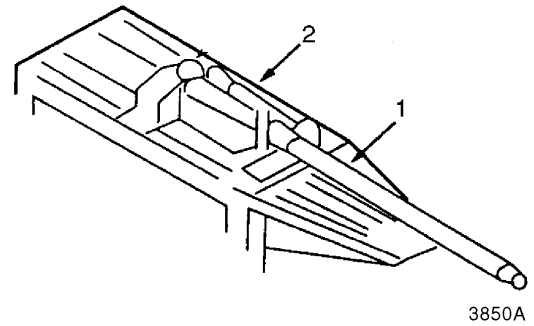

Figure 32
17. Set cylinder rod (1, Figure 32) into a repair fixture (2). Securely clamp rod to fixture. Exercise caution to prevent nicks or scratches to chrome plated areas of rod. chrome plated area is oil sealing surface of rod.